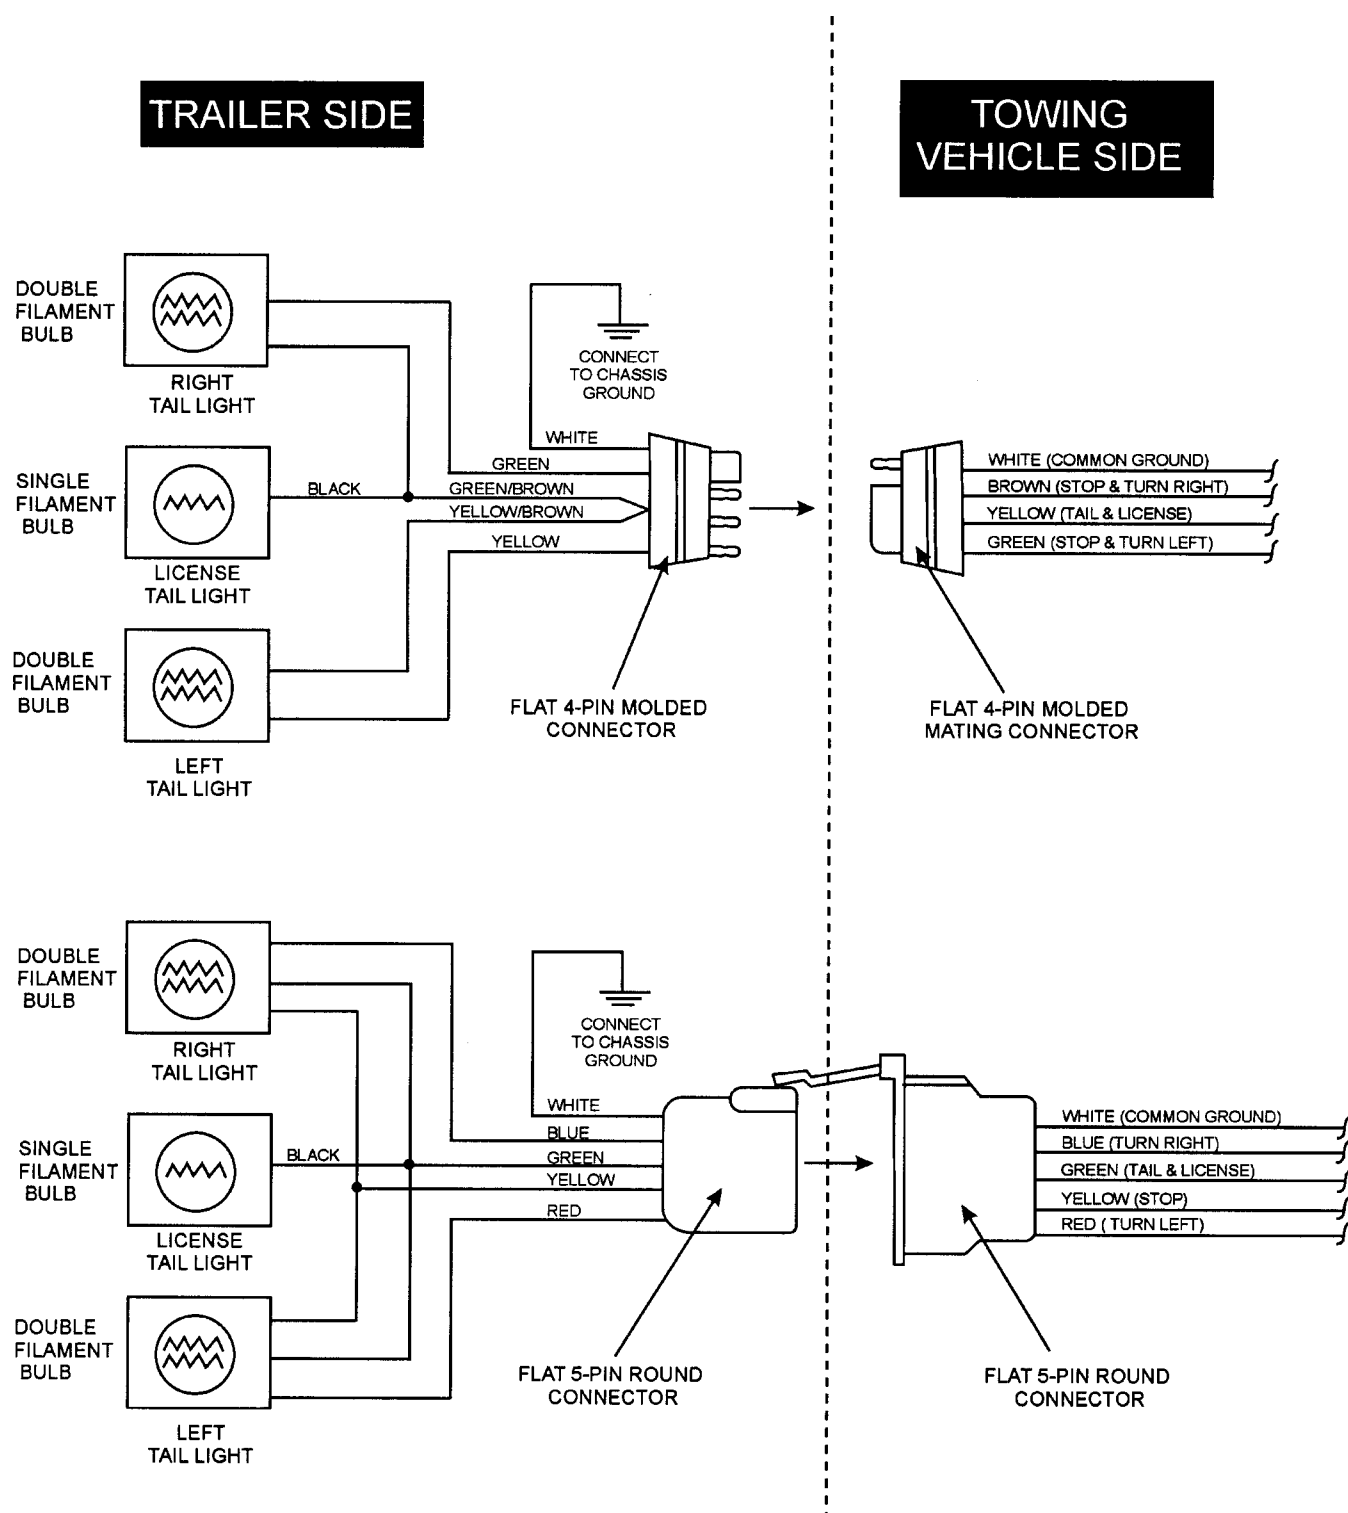
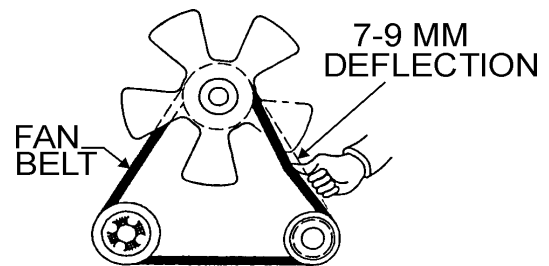

**Figure 5. Lug Nut Tightening Sequence**
Figure 7. Fan Belt Tension
2. Torque all lug nuts in sequence. See Figure 5. **DO NOT** torque the wheel lug nuts all the way down. Tighten each lug nut in 3 separate passes as defined by Table 5.
The fan belt tension is proper if the fan belt (Figure 7) deflects 7 to 9 mm (0.28- to 0.35 in.) when depressed with the thumb as shown in Figure 5 below.